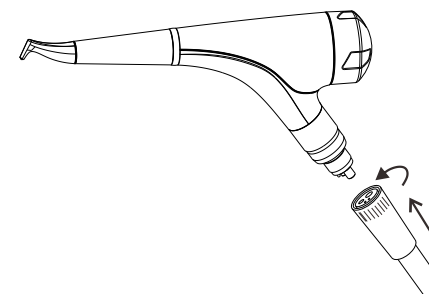

Fig. 4 Connection method of AirJet 1
**AirJet 1:** directly insert the quick connector into the Power Jet Handpiece tail connector, and then tighten the quick connector. (See Figure 4)